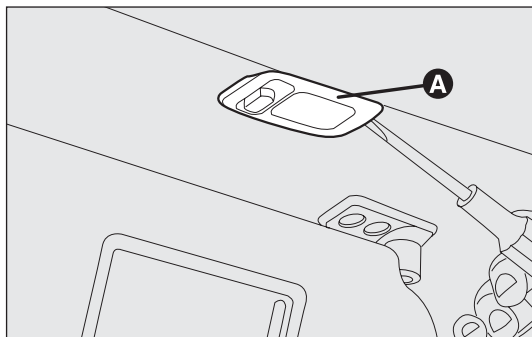

fig. 184
COURTESY LIGHT fig. 184
- ☐ remove the light A-fig. 184 by levering on the points shown by the arrow.